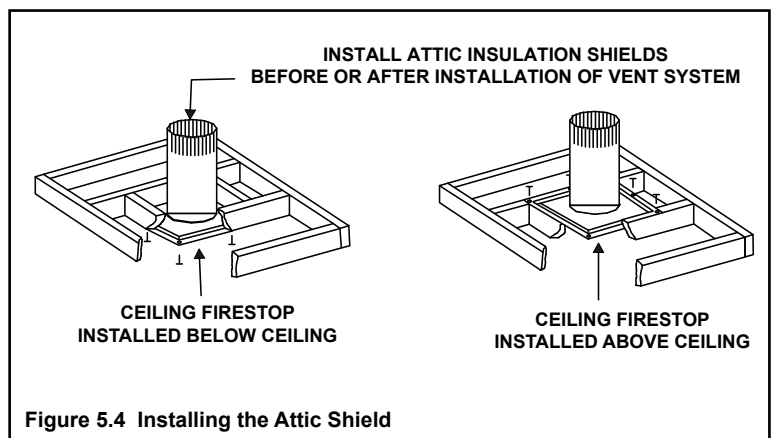

Figure 5.4 Installing the Attic Shield
- The ceiling firestop may be installed above or below the ceiling joists when installed with an attic insulation shield (UNIV-AS2). It must be under joists between floors that are not insulated. Refer to Figure 5.4.